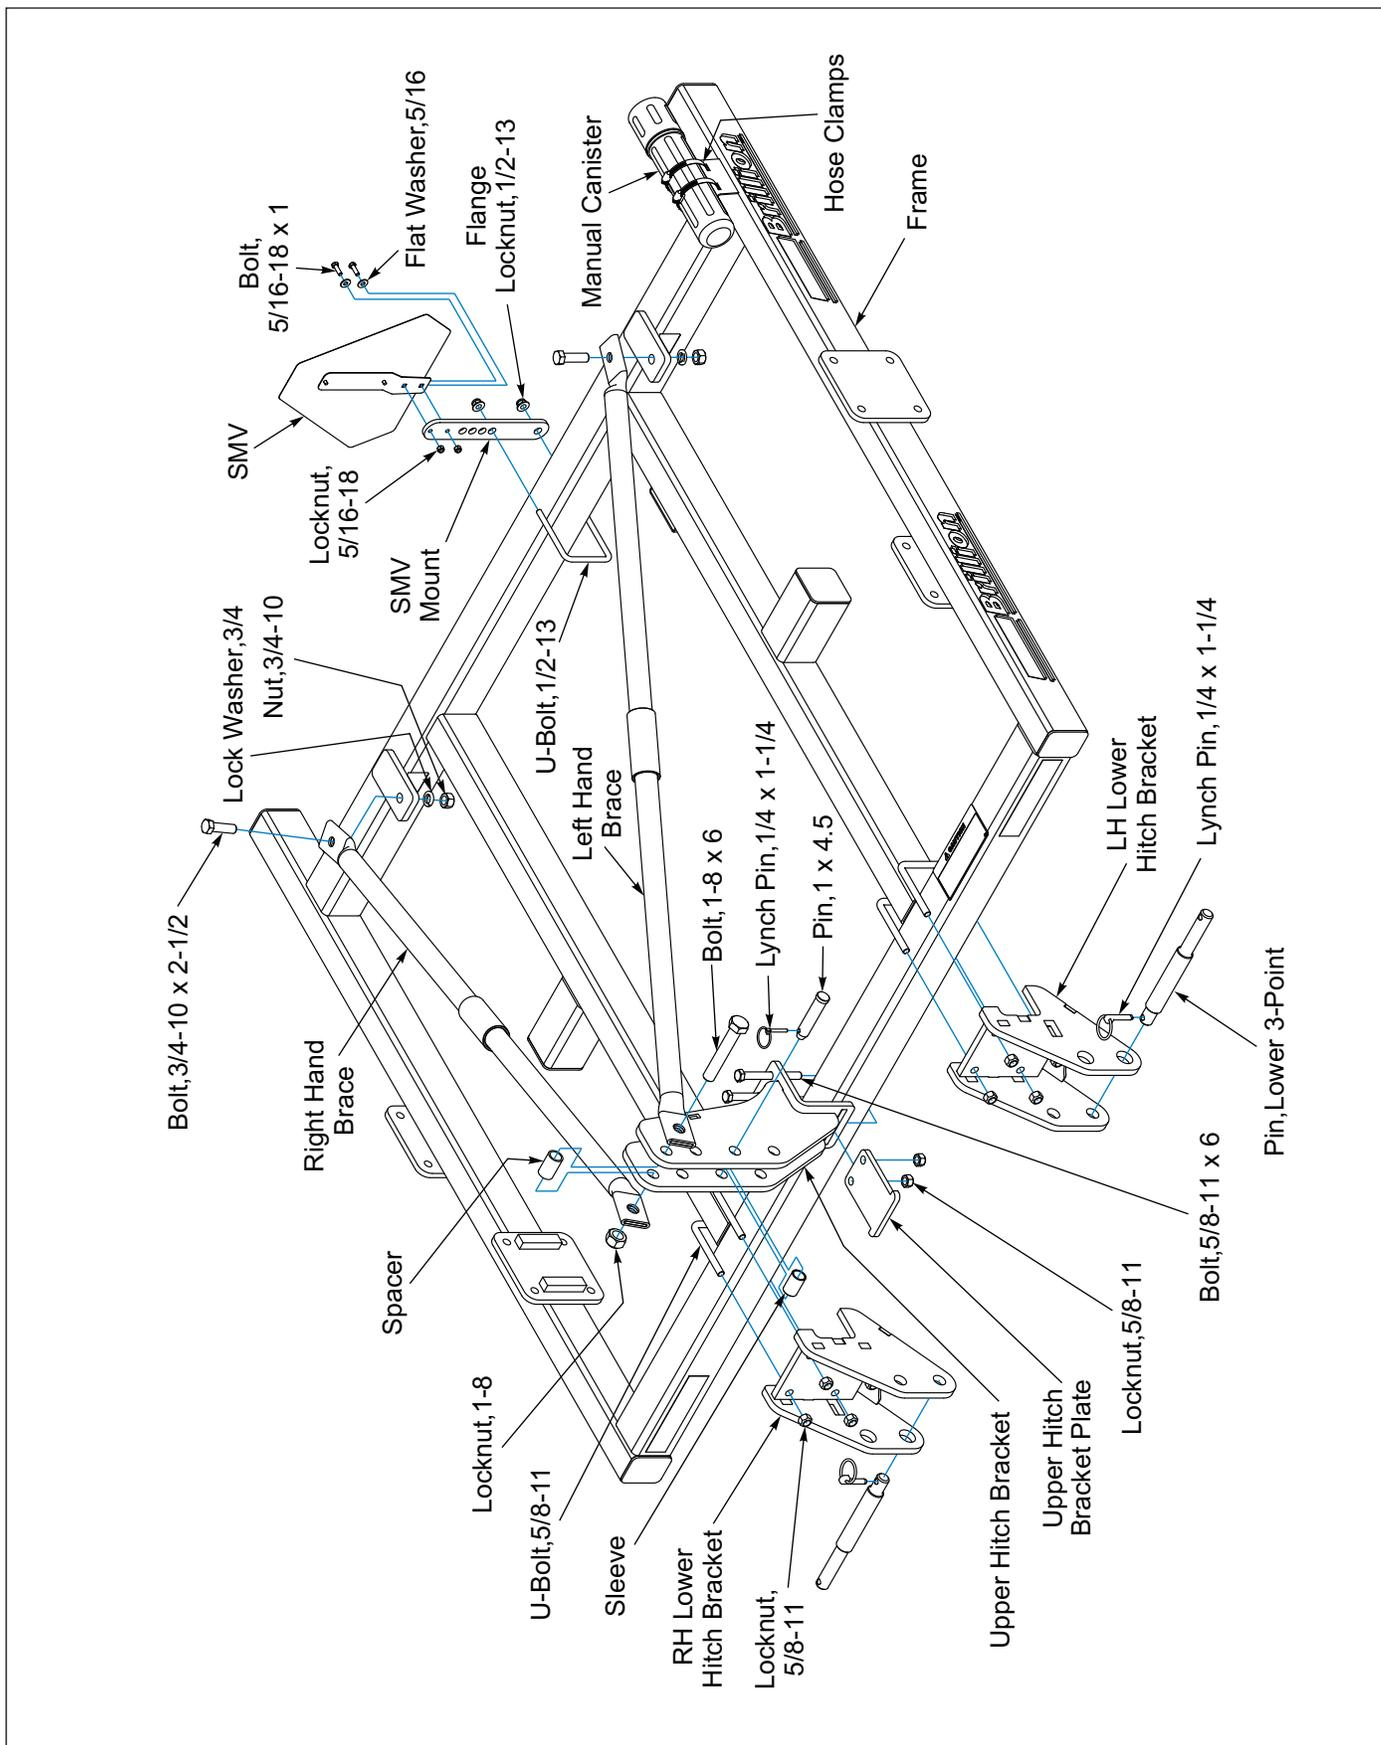

Figure 2-1: Frame
3. Assemble Upper Hitch Bracket to the center of the Front Frame Tube. Slide Upper Hitch Bracket Plate in the slot of the Upper Hitch Bracket and under the Front Frame Tube. Secure with 5/8-11 x 6 Bolts and Locknuts. **See Figure 2-1.**
6. Determine the category of tractor and Length of Shank that will be used and install the Upper and Lower Hitch pins into the Hitch Brackets. **See Figures 2-1, 2-3 and 2-3.**
Install the Manual Storage canister to the frame with Hose Clamps. **See Figure 2-1.**
Attach the SMV Mount about 4 inches left of center on the rear Frame Tube with 1/2-13 U-Bolt and Flange Locknuts. **See Figure 2-1.** Install SMV Sign to Mount with 5/16-18 x 1 Bolts, Flat Washers and Locknuts.